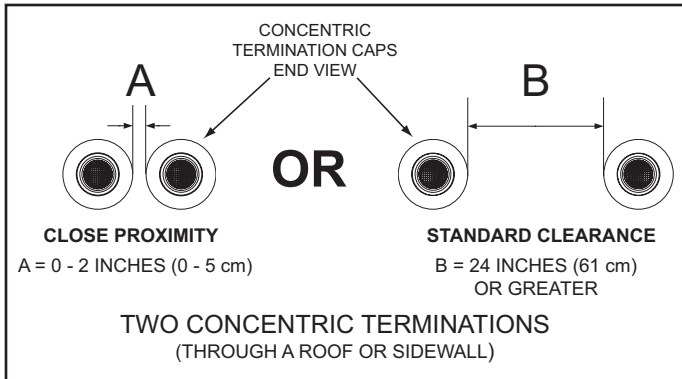
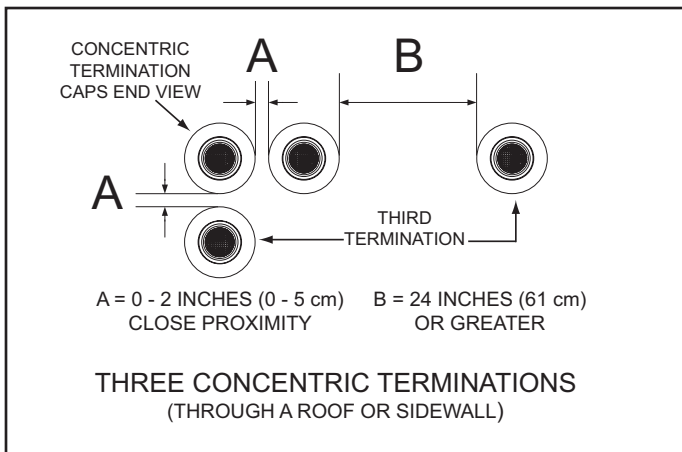
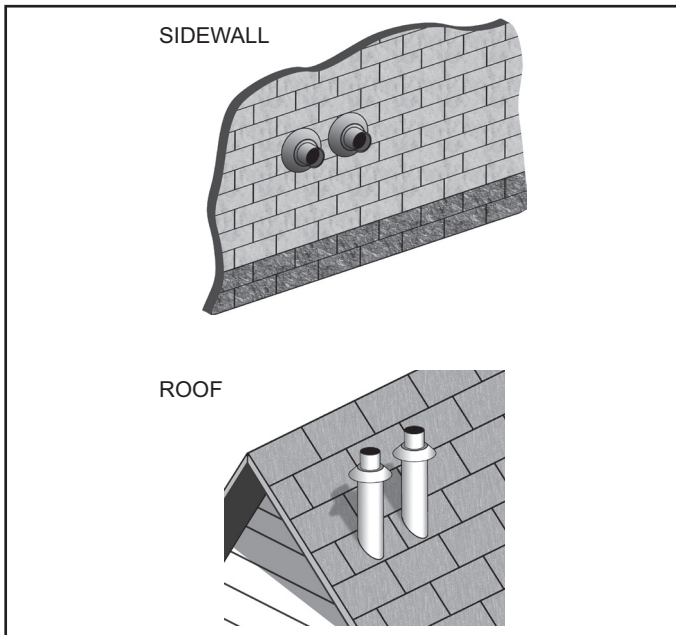

Figure 28
Figure 29
Figure 33
When installing multiple concentric terminations through a roof or through a sidewall the clearances shown in Figure 28 must be maintained.
1. The clearance between multiple termination caps must be 0 inches (touching) to a maximum of 2 inches (5 cm), dimension A - Figure 28, when installing concentric terminations in close proximity. See Figure 33 on page 31.
2. The clearance between multiple termination caps must be increased to a minimum of 24 inches (61 cm), dimension B - Figure 28, when installation in close proximity (above) is not possible. This is the standard clearance.
1. When installing three concentric terminations through a roof or through a sidewall the third termination may be installed in close proximity as indicated by dimension A in Figure 29.
2. If close proximity installation of the third termination is not possible the third termination may be installed as indicated by dimension B in Figure 29.
Two concentric terminations may be installed in close proximity as shown in Figure 33 or with standard clearances when this arrangement is not possible. See Figure 28 on page 30 for detailed information on clearances. See Figure 29 on page 30 when installing three concentric terminations.